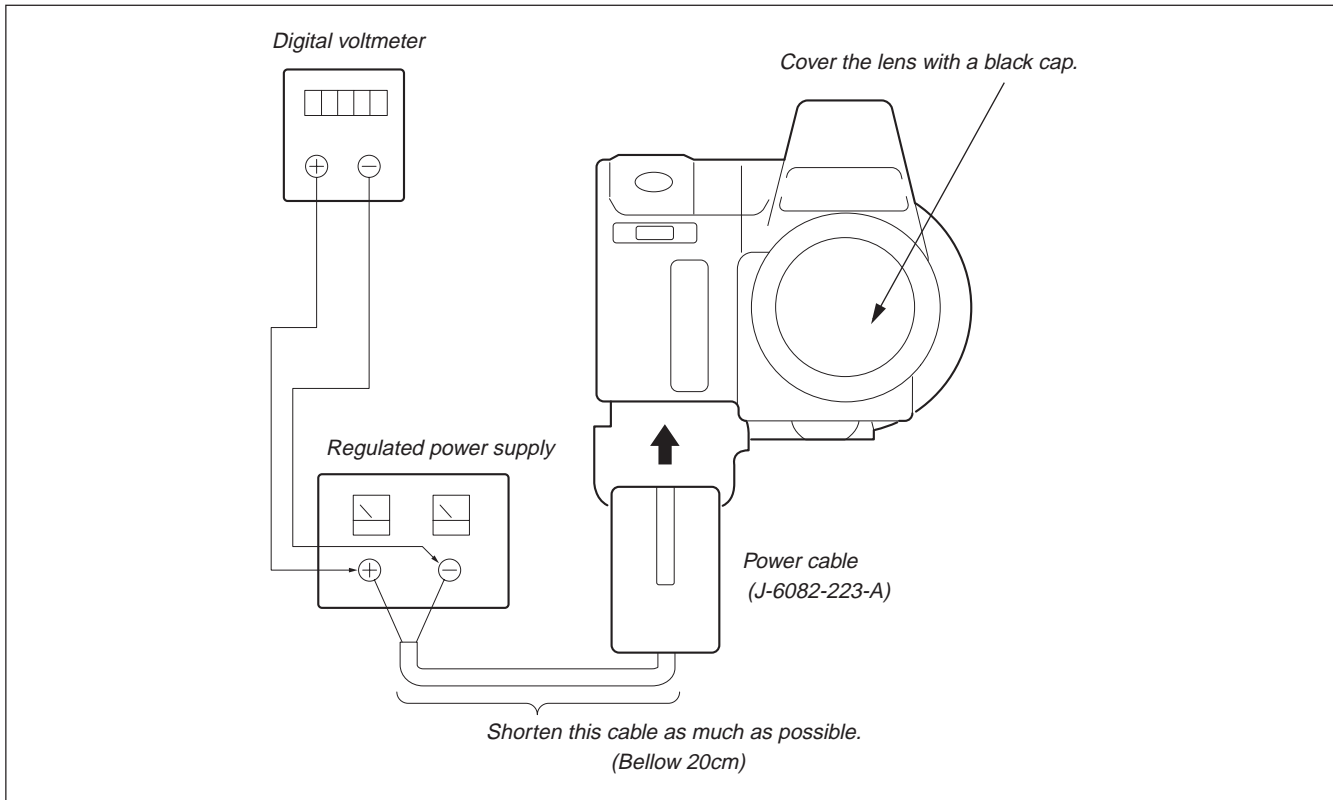

Fig. 5-1-30.
- 1) Connect the regulated power supply and the digital voltmeter to the battery terminal as shown in Fig. 5-1-30.